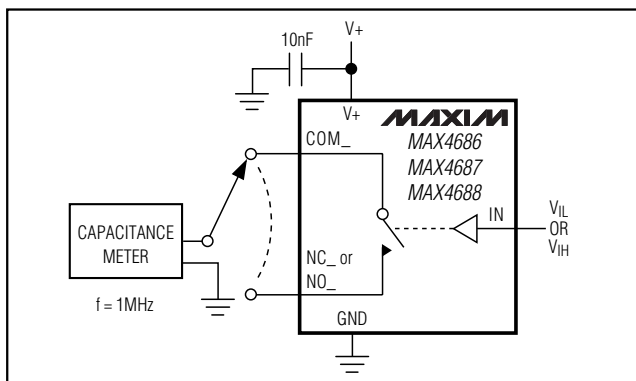

Figure 6. Channel Off/On-Capacitance
| NO, NC Off-Capacitance                    | C NO(OFF) , C NC(OFF) | f = 1MHz, Figure 6   | +25°C                                |     | 12   |     | pF    |
| COM Off-Capacitance                       | C COM(OFF)                       | f = 1MHz, Figure 6   | +25°C                                |     | 12   |     | pF    |
| Switch On-Capacitance                     | C (ON)                           | f = 1MHz, Figure 6   | +25°C                                |     | 35   |     | pF    |